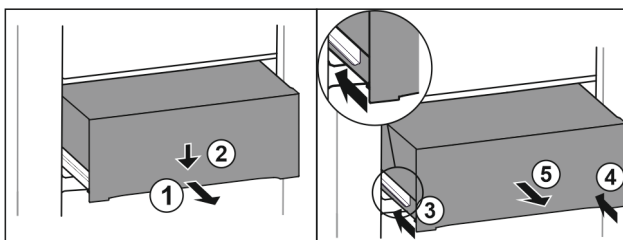

Fig. 182
- ▶ Pull out drawer half-way. Fig. 182 (1)
- ▶ Push the drawer down at the front. Fig. 182 (2)
- ▶ Push the left rail in by about 2 cm. Fig. 182 (3)
- ▶ Push the right rail in by about 2 cm. Fig. 182 (4)
- ▶ Remove drawer to the front. Fig. 182 (5)